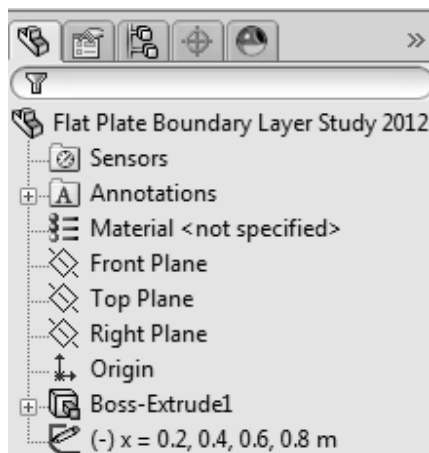

Figure 2.8 Renaming the sketch for boundary layer velocity profiles
8. Repeat step 7 three more times and add three more vertical lines to the sketch, the second line at  $X = 400$  mm with a length of 40 mm, the third line at  $X = 600$  mm with a length of 60 mm and the fourth line at  $X = 800$  mm with a length of 80 mm. These lines will be used to plot the boundary layer velocity profiles at different streamwise positions along the flat plate. Close the **Insert Line** dialog . Save the SolidWorks part with the following name: **Flat Plate Boundary Layer Study 2012**. Rename the newly created sketch in the **FeatureManager design tree**, see figure 2.8. Click on the **Rebuild** symbol  in the SolidWorks menu.